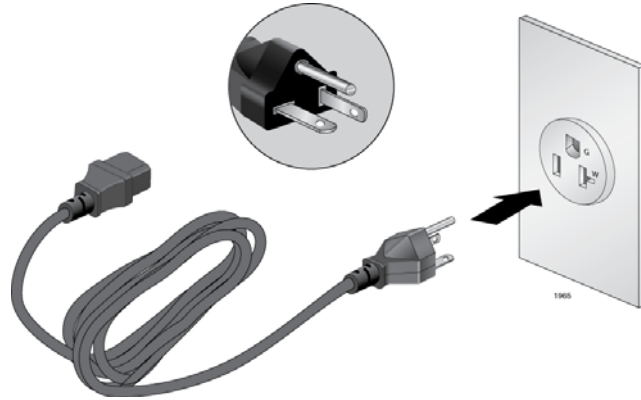

Figure 33. 100 - 125 VAC 125 V NEMA 5-20 Plug and Receptacle
- The power cords provided with the AT-SBxPWRSYS1 and AT-SBxPWRPOE1 Power Supplies for 100-125 VAC installations have 20 Amp, 125 V NEMA 5-20P plugs. The plug is only compatible with a NEMA 5-20R receptacle. See Figure 33 on page 75.